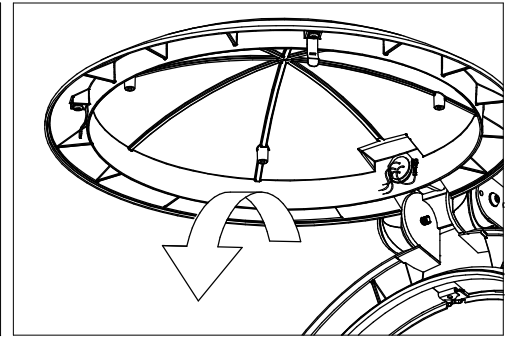

FIG. 1-2
3. REMOVE AND DISCONNECT EXISTING INSTALLED REFLECTOR ASSEMBLY, IN ADDITION TO ANY BRACKETS AND HARDWARE SO THAT (4) BOSSES REMAIN UNOBSTRUCTED. (FIG. 1-2)